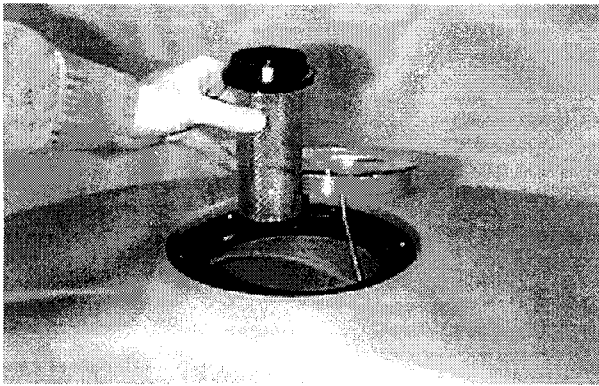

FIG. 26
- Remove and clean lint from float shut-off screen located in recovery tank (Figure 26).